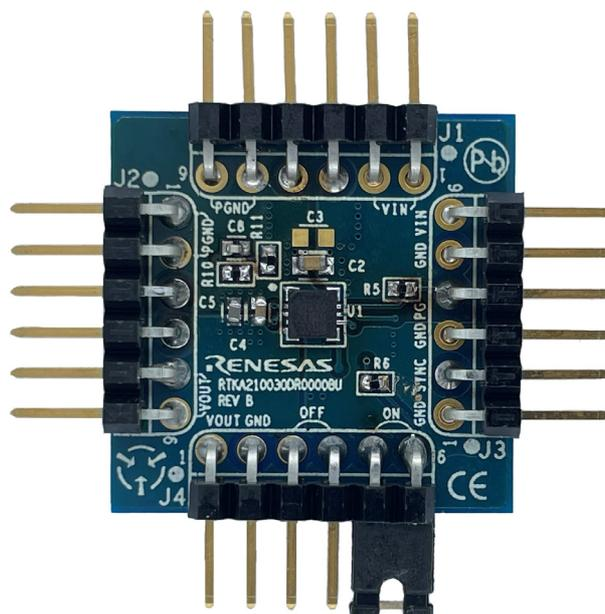
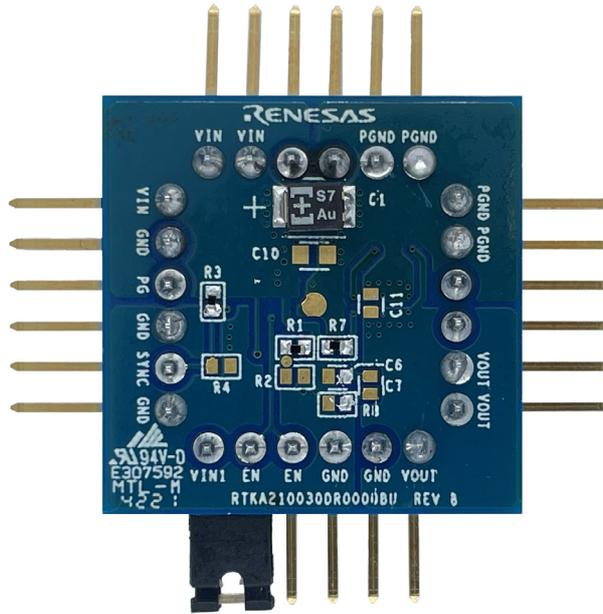
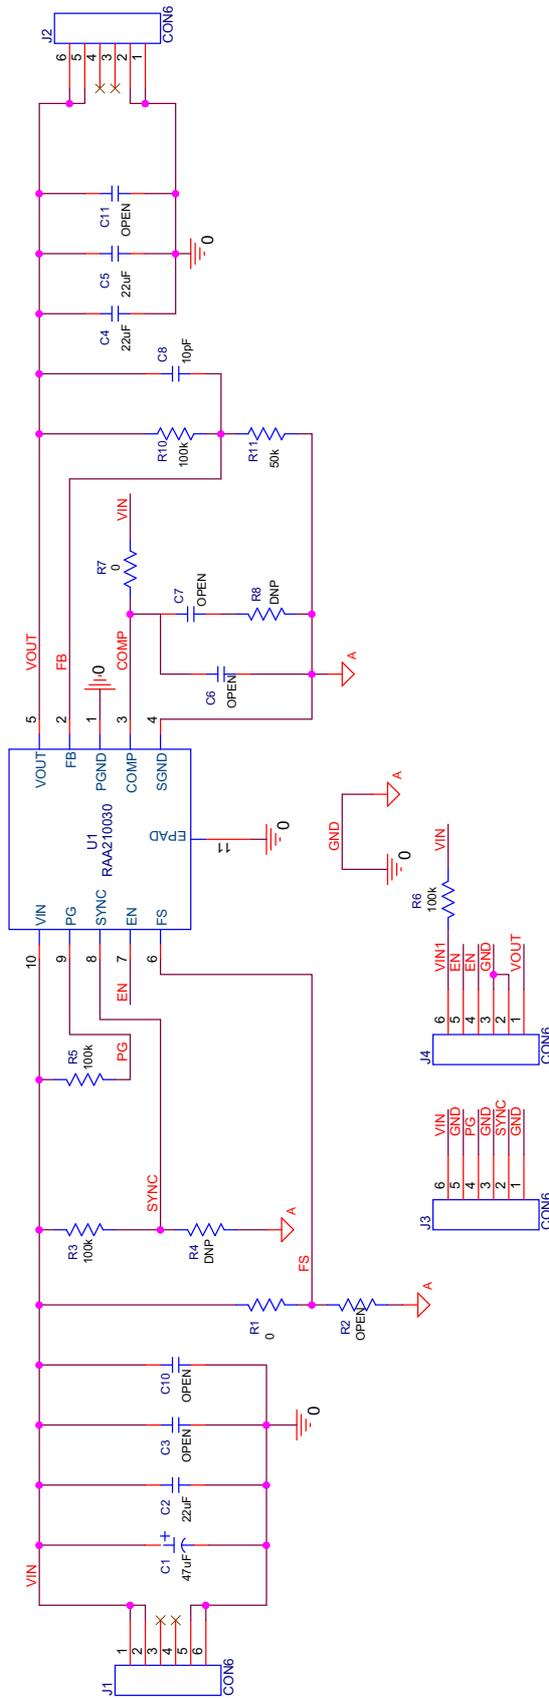

Figure 2. RTKA210030DR0000BU Evaluation Board (Top)
Figure 3. RTKA210030DR0000BU Evaluation Board (Bottom)
Figure 7. RTKA210030DR0000BU Schematic
The RTKA210030DR0000BU demonstration board (shown in Figure 2 and Figure 3) features the RTKA210030DR0000BU. Capable of delivering up to 3A of continuous current, the RAA210030 is a compact, synchronous step-down, non-isolated complete power supply that is optimized for space-constrained applications. The RTKA210030DR0000BU is based on a peak current mode PWM control scheme that provides a fast transient response and excellent loop stability. The switching frequency is programmable from 500kHz to 4MHz with either the external resistor or synchronization to an external clock through the SYNC pin.
The RTKA210030DR0000BU provides the peripheral circuitry to demonstrate the feature set of the RAA210030. The demonstration board includes several connectors that simplify the validation of the module. The module is enabled and disabled by moving the jumper across the J4.3-J4.6 as shown in Figure 2. Selecting features like external frequency synchronization is performed by removing the pull-up resistor R_3 of the SYNC pin and connecting the signal generator (square pulse waveform clock signal) to J3.2 of the SYNC pin. The output voltage (0.6V - 5V) and the switching frequency (500kHz to 4MHz) are programmed by changing the resistors as shown in Table 1.
Table 1. RTKA210030DR0000BU Design Guide Matrix (See Figure 7)
1. Disable the module by connecting the jumper across 3 and 4 on J4 for the EN pin as shown in Figure 2 and Figure 7.